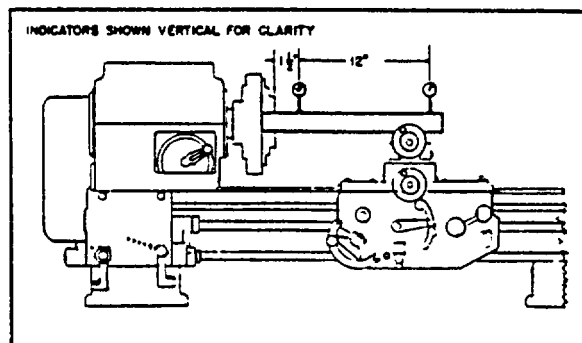

Fig. 13.
2. True up the test bar by indicating 1 1/2" and 13 1/2" from the chuck. Rotate the test bar against an indicator at these positions, see Fig. 13. The total indicator reading should not exceed 0005 at either spot.